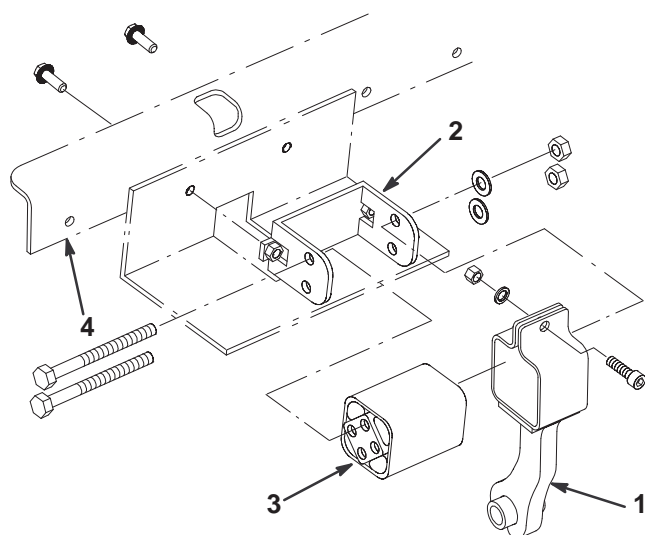

Figure 2
- Remove and discard 2 bolts, flat washers, and lock washers mounting the Rotalink brackets to frame (Fig. 2).
- Remove 2 bolts, flat washers, and nuts securing bracket to the Rotalink element (Fig. 2).
- Remove bolt, flat washer, and nut clamping the arm to the Rotalink element (Fig. 2). Remove and retain Rotalink element from Rotalink arm. Discard Rotalink arm.
- Remount Rotalink element to bracket with 2 bolts, flat washers, and nuts previously removed (Fig. 2). Torque bolts to 66 ft.-lb. (89 N·m).
- Mount the Rotalink bracket and new angle bracket to the frame with 2 serrated flange bolts (M10-1.5) (Fig. 2). Torque bolts to 38 ft.-lb. (51 N·m).
2. Install bolt, flat washer, and nut clamping the arm to the Rotalink element (Fig. 2). Torque bolt to 38 ft.-lb. (51 N·m).